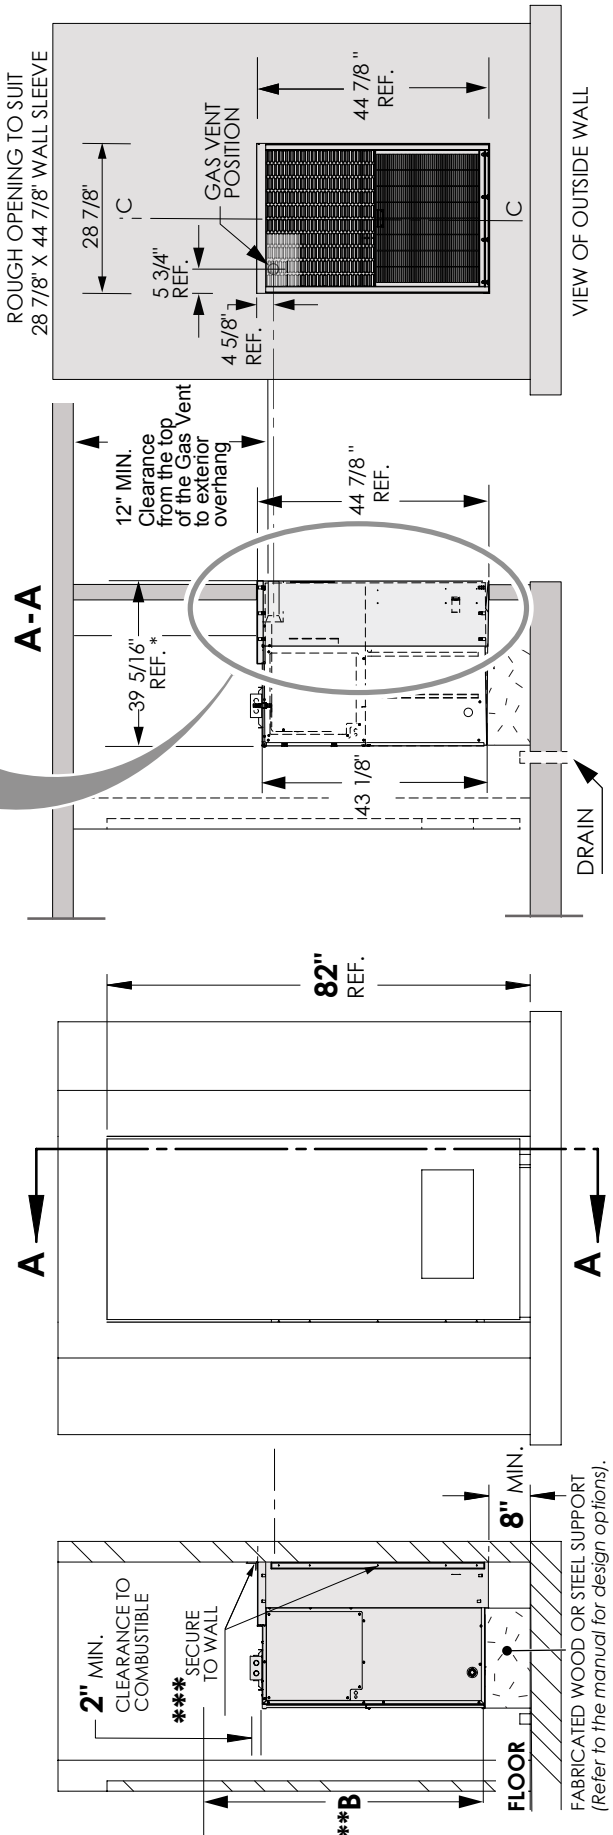

FIG. 4.2.2.B
- Do not install directly on carpeting, tile, or other combustible material other than wood flooring. The grille side of the unit must protrude minimum 1/2” but no more than 1” (maximum) from the face of the building and should not be obstructed by foreign objects. Refer to FIG. 4.2.2.B
NOTE *** REFER TO FIGURE 4.2.2.A, PAGE 14.